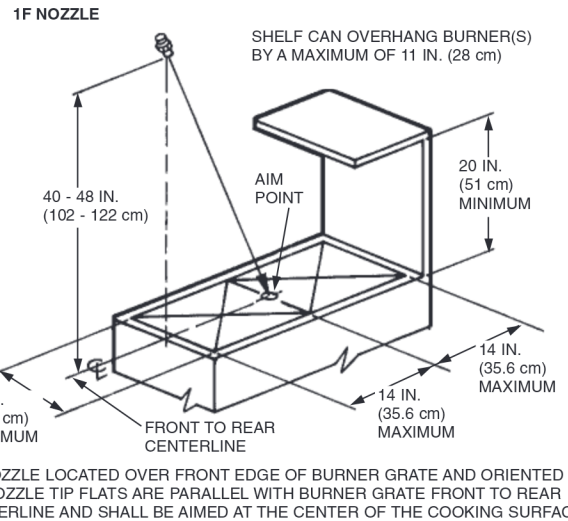

FIGURE 27
- Option 1: 1F Nozzle:** When using the 1F nozzle for range protection with or without back shelf, the maximum length of the burner grates being protected must not exceed 28 in. (71 cm) and the maximum area of the burner grates must not exceed 336 sq. in. (2168 sq. cm). See Figure 27 for nozzle location details.